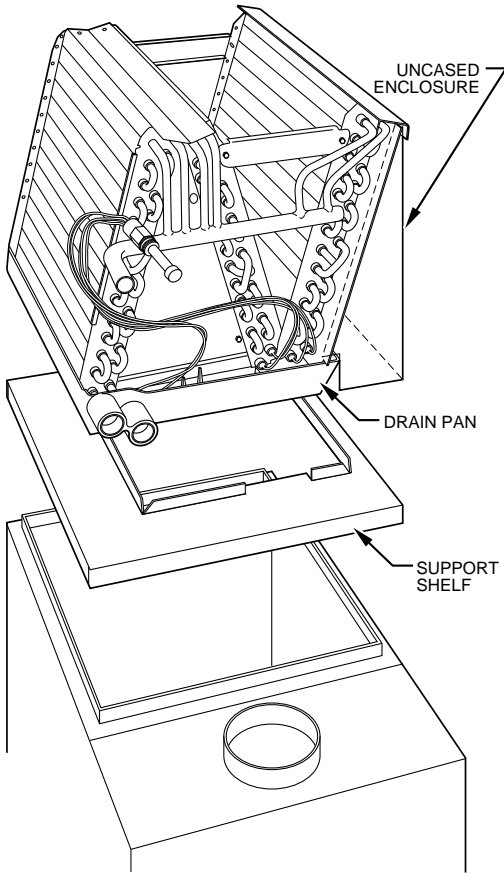

Fig. 3—Furnace opening and N-Coil with Support Shelf
2. Assemble support shelf and CJ5A coil. The assembly is designed to accommodate furnace opening. (See Fig. 3.)